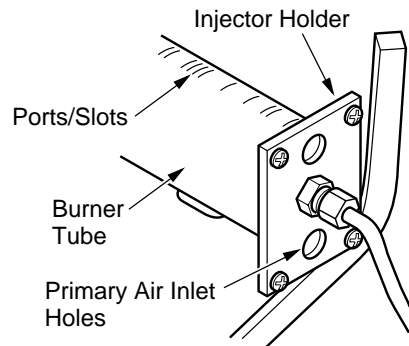

Figure 59 - Injector Holder On Outlet Burner Tube
2. Inspect burner, pilot, and primary air inlet holes on injector holder for dust and dirt (see Figure 59).